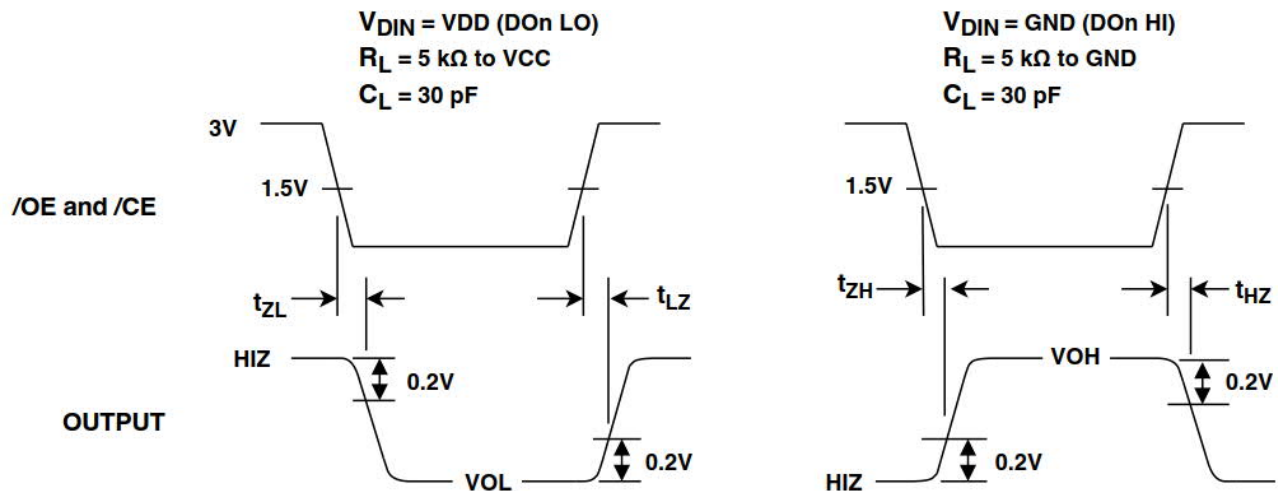

Figure 9 Chip Enable or Output Enable to Output Delay
3. Timing measured from VIN = 1.5 V to VOUT = 200 mV. See Figure 9.